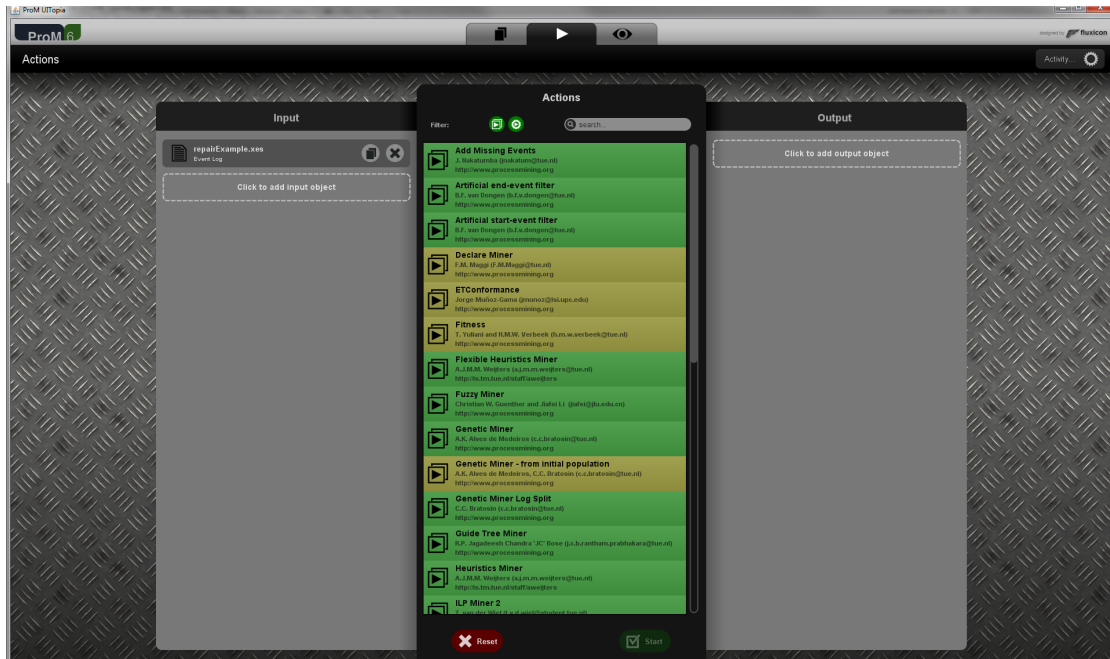

Figure 6: Action view with the example log selected.
1. Select the “repairExample.xes” entry in your workspace, and select the “Action” button. This will open the *Action* view (see Figure 6) with the log preselected as an input for the action to perform. In this view, only actions that take a log as input are listed, where actions that only take a log as input are colored green (all inputs are available) and actions that require additional inputs are colored yellow (some but not all inputs are available).